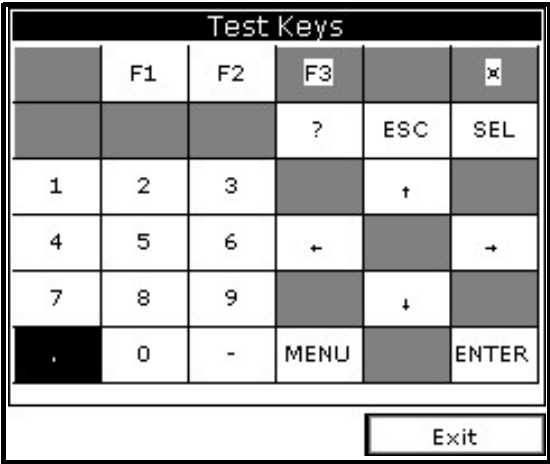

Figure 64: Test Keys Window
- 4. Use the arrow keys to scroll to Test Keys and press [ENTER]. The screen appears similar to Figure 64.